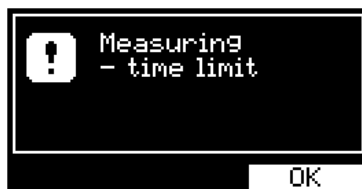

Figure 27: Warning message: Measuring - time limit
If the time of measuring exceeds the allowed limit (according to the appliance's current - see chapter 2.1), power supply is disconnected from the Test Socket (1), then an acoustic signal sounds and the display shows the warning message (Figure 27).